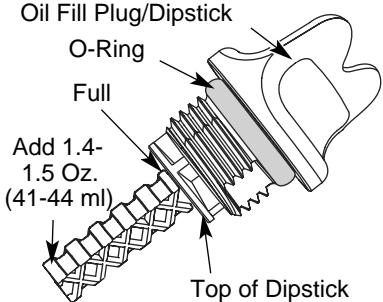

Fig. 23
5. Remove the oil fill plug/ dipstick and check the oil level. Oil should be up to the top of the dipstick (Fig. 23).